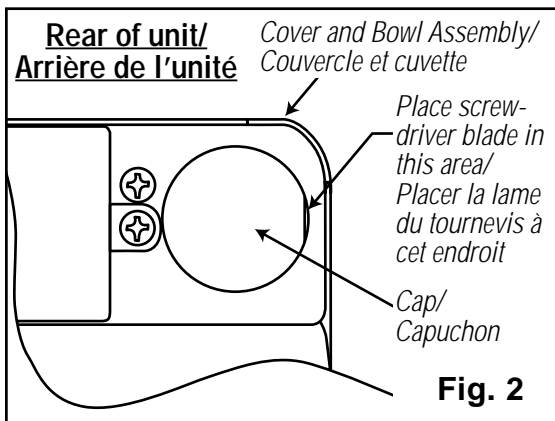

Fig. 2
- 3) To remove Cap in desired location: locate small flat on side of Cap (Fig. 2). Insert end of a small flat blade screwdriver under it. Pry up. Remove Splash Guard located under Cap.